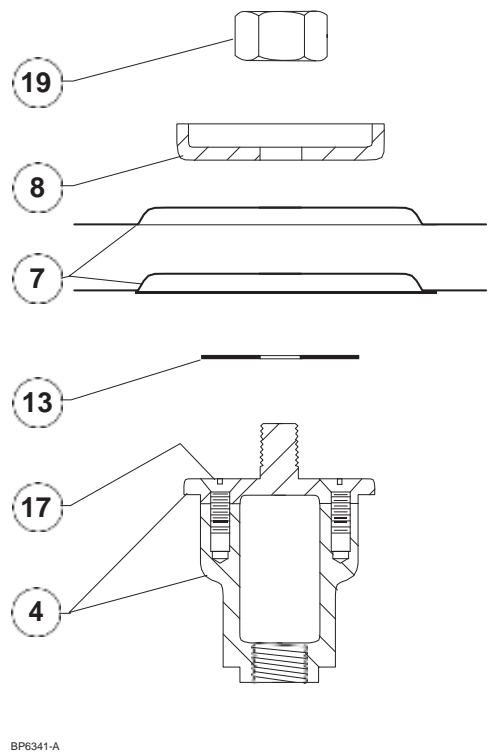

Figure 5. Exploded View of The Diaphragm Head Assembly and Yoke
1. Loosen the locknut (key 18).
2. Turn the adjusting screw (key 15) counterclockwise to remove spring compression.
3. Remove the bottom cap (key 3), bottom cap O-ring (key 14) and spring (key 10).
4. Unthread the valve disk assembly (key 6) from the yoke (key 4).
5. Remove the valve disk collar (key 22) from the valve disk assembly.
6. Remove the spring case cap screws (key 16), and separate the spring case (key 2) from the body (key 1).
8. Refer to Figure 5. Unscrew the diaphragm locknut (key 19), and remove the diaphragm plate (key 8), the two diaphragms (key 7) and the diaphragm plate gasket (key 13).
9. Remove the screws (key 17) from the yoke, and take the lower and upper halves of the yoke out of the body. The yoke halves are a matched set and need to be kept together.
10. Unscrew the orifice (key 5). Examine seating edge of orifice. Replace with a new part if worn or nicked.
1. Screw the orifice (key 5) into the regulator.
2. Insert both halves of the yoke (key 4) into the regulator, and fasten them together with the screws (key 17). The yoke halves are a matched set and need to be kept together.
3. The valve disk assembly (key 6) has two valve disks, one on each end. Inspect both valve disks, and select the one to be used. Thread the valve disk assembly into the yoke so that the disk to be used is positioned against the orifice. Thread the valve disk collar (key 22) onto the exposed end of the valve disk assembly.
4. Place the bottom cap O-ring (key 14) on the bottom cap (key 3). Place the spring (key 10) in the bottom cap, and thread it into the regulator.
5. Put the body gasket (key 12) on the regulator body (key 1).
6. Refer to Figure 5. Place the diaphragm plate gasket (key 13), two diaphragms (key 7), and the diaphragm plate (key 8) on the yoke (key 4). Make sure the diaphragm convolutions are toward the spring, and secure the parts by threading the diaphragm locknut (key 19) onto the yoke.
7. Place the regulator spring (key 11) and upper spring seat (key 9) on the diaphragm plate.
8. Position the spring case (key 2) over the spring and on the regulator body. Orient the spring case vent or vents as necessary. Insert the cap screws (key 16), and tighten them only finger-tight.
9. Thread the adjusting screw and locknut (keys 15 and 18) into the spring case just far enough to slightly compress the spring. Securely tighten the cap screws (key 16), and refer to the Startup section for adjustment procedures.